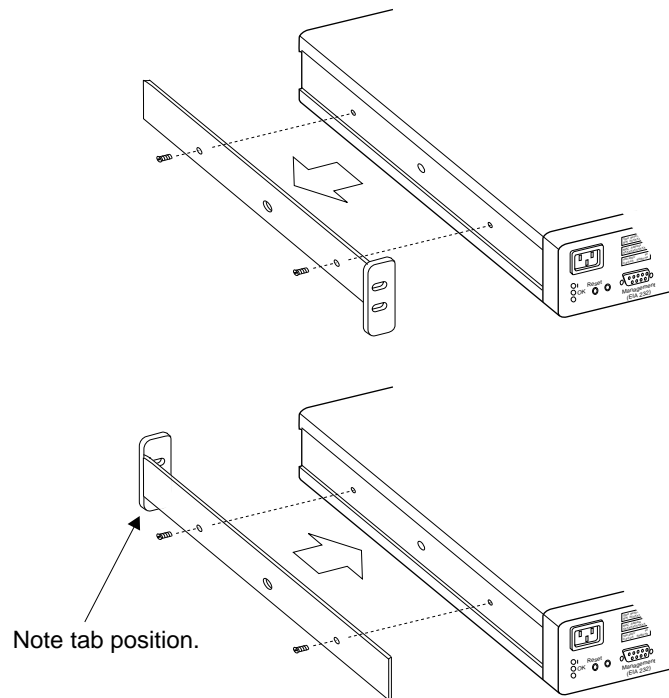

Figure 3-3. Attaching the Mounting Brackets for Surface Mounting
**Step 2.** Rotate the brackets and reattach them to the 8271 as shown in Figure 3-3.